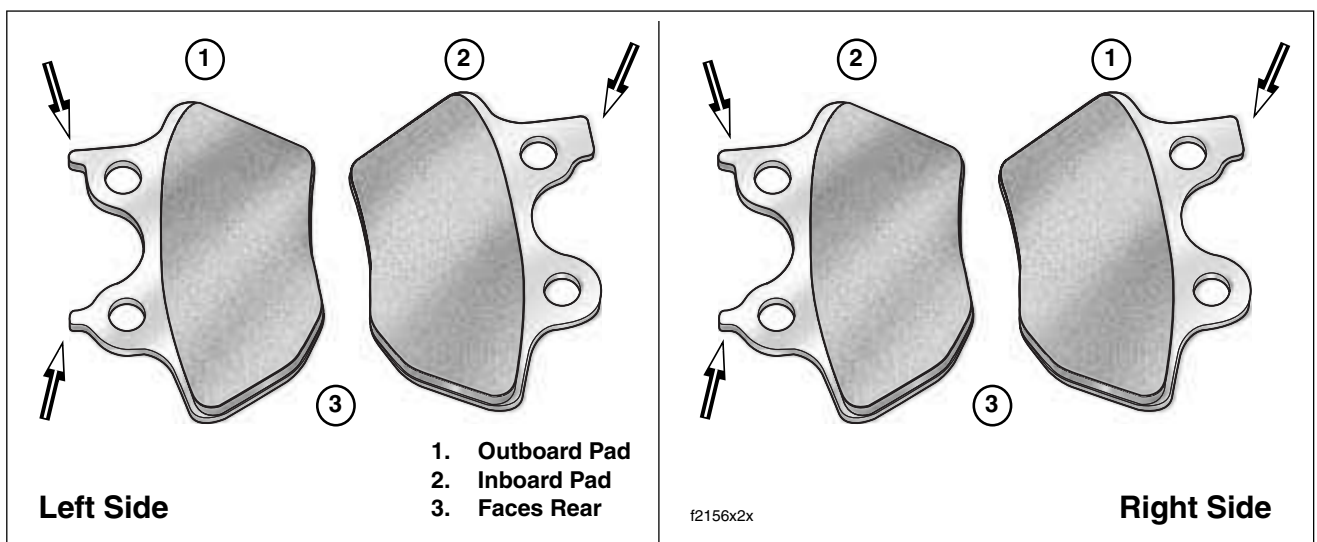

Figure 2-58. Front Brake Pad Locations
- Install **new** brake pads into caliper with the friction material facing the brake disc opening. Be sure that the pad is oriented so that the curved side faces the rear of the vehicle when the caliper is installed. See Figure 2-58.
7. Install **new** brake pads into caliper with the friction material facing the brake disc opening. Also, be sure that the pad is oriented so that the curved side faces the rear of the vehicle when the caliper is installed. See Figure 2-58.